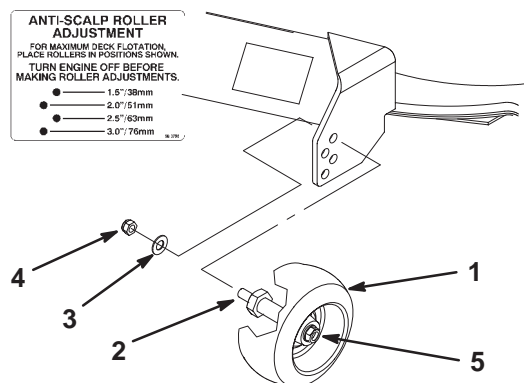

Figure 12
- After adjusting the height-of-cut, remove the nut and washer while holding the stud with a wrench (Fig. 12).
Note: Do not remove the wheel nut and washer (Fig. 12).
- Select a hole so that the gage wheel is positioned to the nearest corresponding height-of-cut desired (Fig. 12).
- Install the stud nut and washer (Fig. 12).